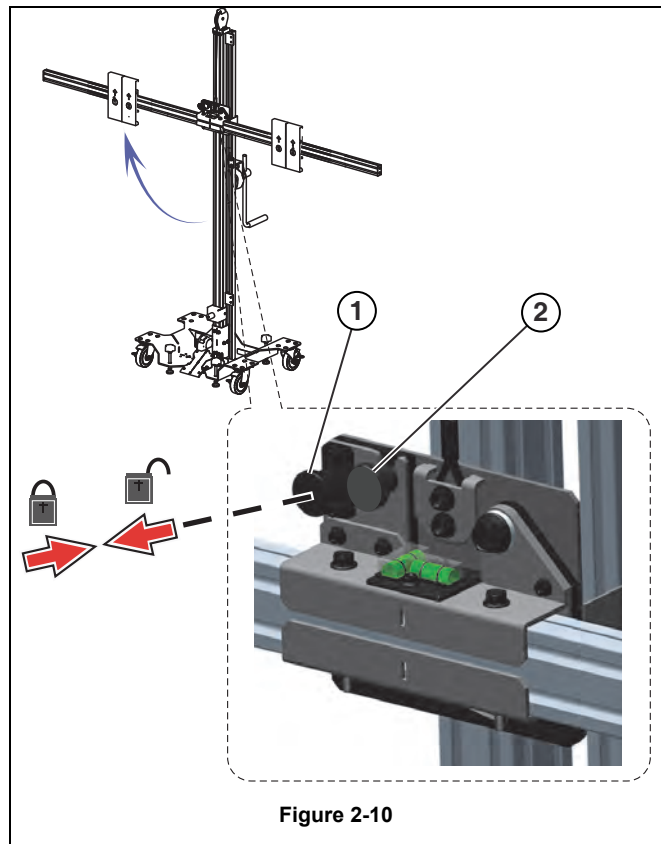

Figure 2-10
1. With the cross beam in the vertical position, pull the locking pin (Figure 2-10 (1)) out, and then start to rotate cross beam up. Release the pin and allow it to slide as you continue to rotate the cross beam up into the horizontal position.
2. Near the top of the rotation, pull the pin out again to bypass the safety stop and continue to rotate the cross arm up to the horizontal position and then release the pin to engage the top hole in the bracket. If needed, loosen the locking knob (Figure 2-10 (2)) just enough to allow the cross beam bracket to slip under it.